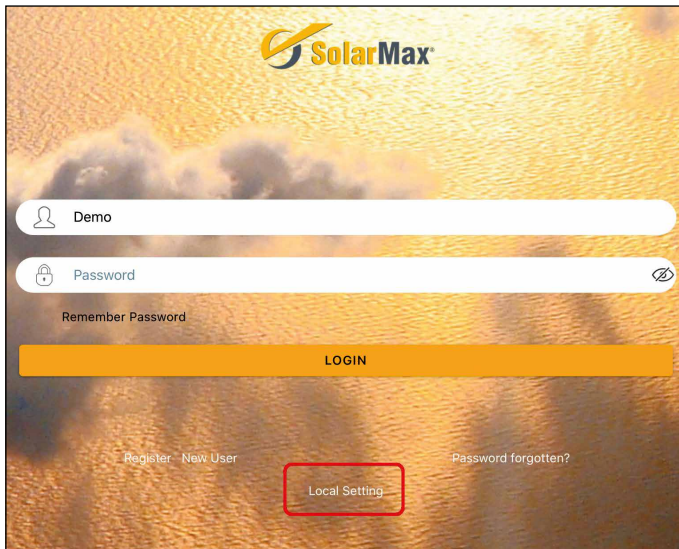

Fig. 23: Start menu at the mobile device for inverter configuration
2. After the connection between the mobile device and the access point of the inverter, start the App MaxLink. Select "Local Setting" (see Fig. 23)., start the App MaxLink. A list of a inverters available for communication is shown